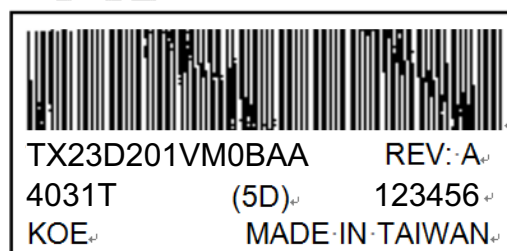

Fig 13.1
- 1) The lot mark is showing in Fig.13.1. First 4 digits are used to represent production lot, T represented made in Taiwan, and the last 6 digits are the serial number.
- 4) The location of the lot mark is on the back of the display shown in Fig. 13.1.